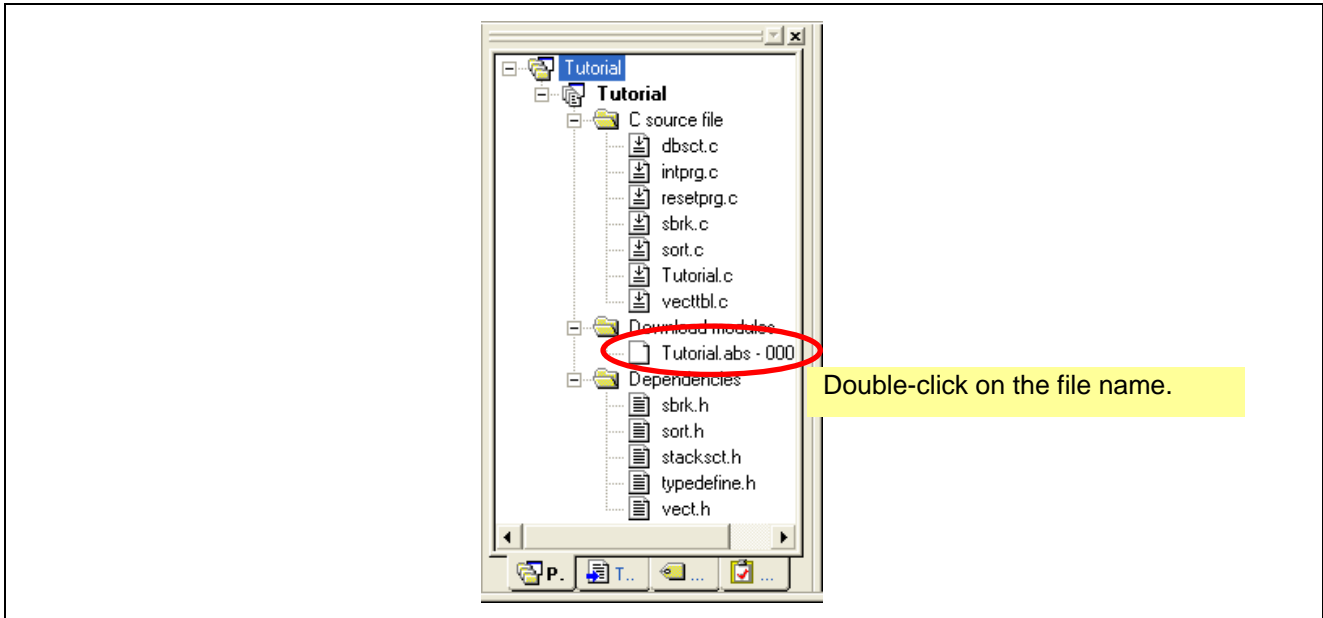

Figure 4.13 Downloading a Program
- (1) Double-click on the load module file name ("Tutorial.abs" in this example) displayed under [Download module] in the workspace window as shown in Figure 4.13.